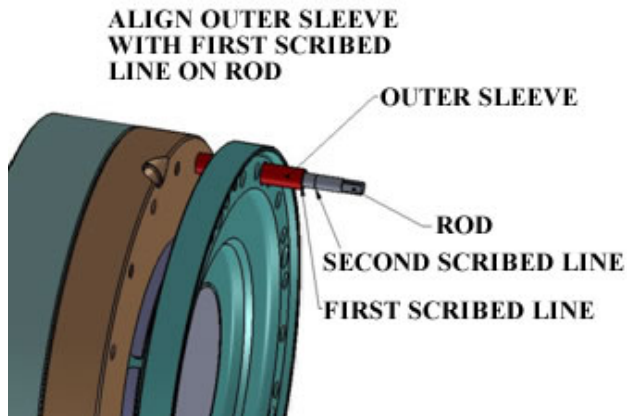

Figure 5a - Setting Initial Grip Position
2.4.8 The proper setting of the HTC is accomplished by the separation or gap between the two halves of the clamp (see Figure 1). A special Gap Tool (Riverhawk PN 7500485) has been provided to facilitate this setting. Be sure you maintain the First Grip Position from the previous step until the tool is in place. Thread the gap tool into one of the retraction screw holes until the outer sleeve aligns with the first scribe line on the rod (see Figure 5a). The tool is spring loaded so you will need to push and turn in order to start the thread.